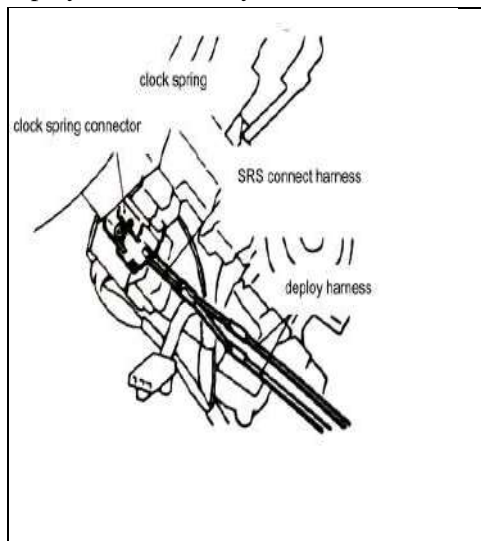

Fig 19-37
④ Connect the SRS air bag adapter harness to the clock spring 2-pin connector and route the deployment harnesses out of the vehicle. (See fig 19-37)
⑤ Close all the doors with the windows fully closed and put a cover over the vehicle to minimize